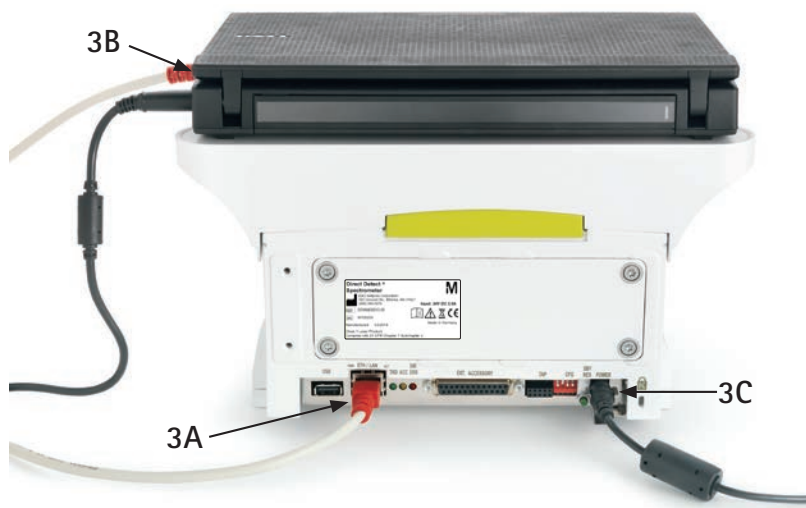

Figure 3. Rear side – Connection ports
### 6.5.1 Positioning and Connecting Components (Figure 3)
3. Turn the instrument/computer assembly so that the rear of the instrument is facing you (Figure 3).